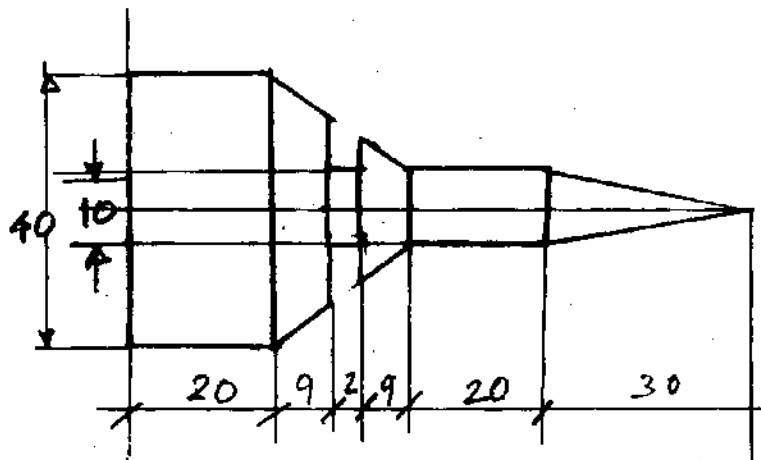

Fig. 8(b)
- (b) Write a CNC part program for manufacturing the part shown in figure 8(b) on turning machine with FANUC controller. Explain the G-codes and M-codes used in it. Assume suitable data if necessary.